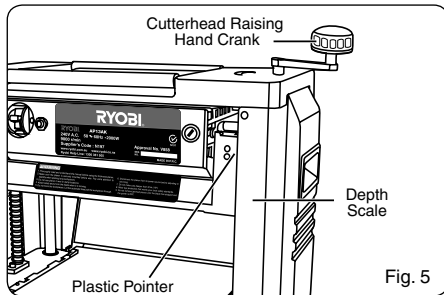

Fig. 5
ADJUST DEPTH OF CUT (Fig. 5)
- To adjust the depth of cut, turn the cutterhead-raising hand crank in the direction marked on top of the planer. The depth of cut adjustment can be read from the depth scale. The adjustment gradation is 2mm per revolution of the hand crank. (Fig. 5)
- If the reading on the depth of cut scale is incorrect, loosen the screw which tightens the plastic pointer and adjust accordingly (Fig. 5)